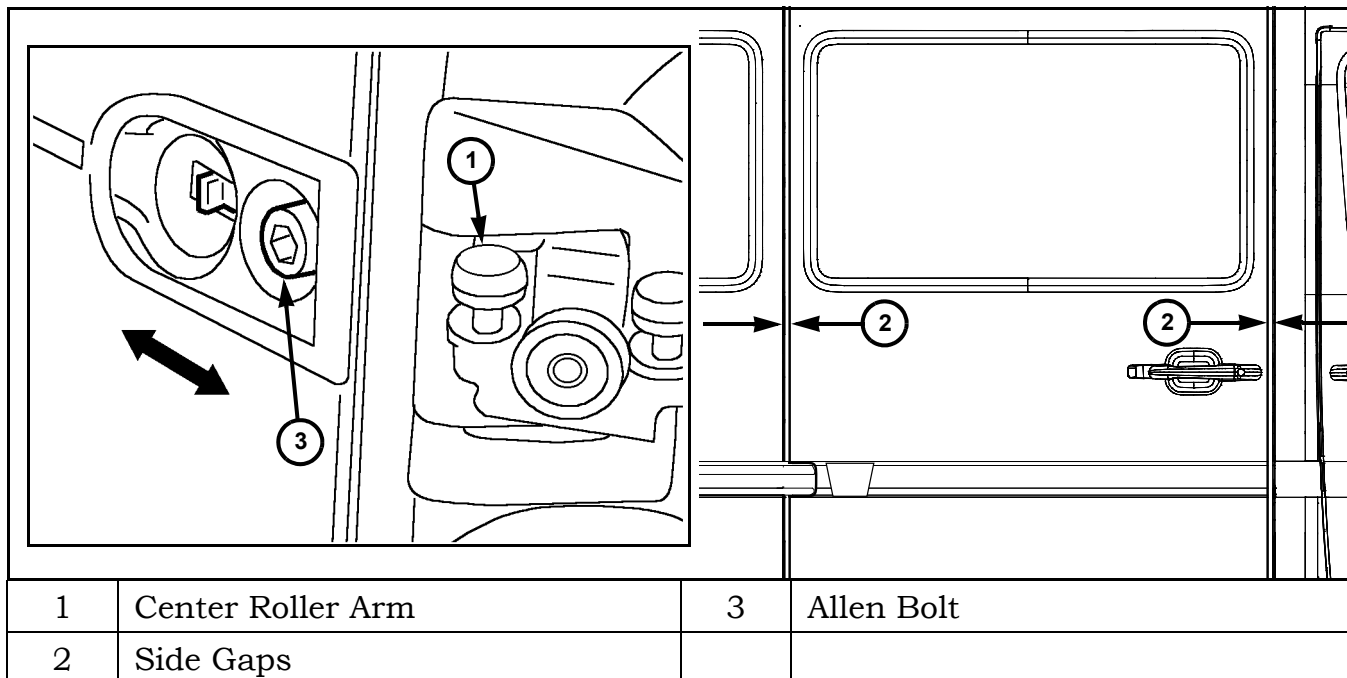

Figure 10 Side Gap Adjustment
11. Loosen center roller arm bolt and adjust side gaps by adjusting center roller arm horizontally (arrow). See Figure 10.